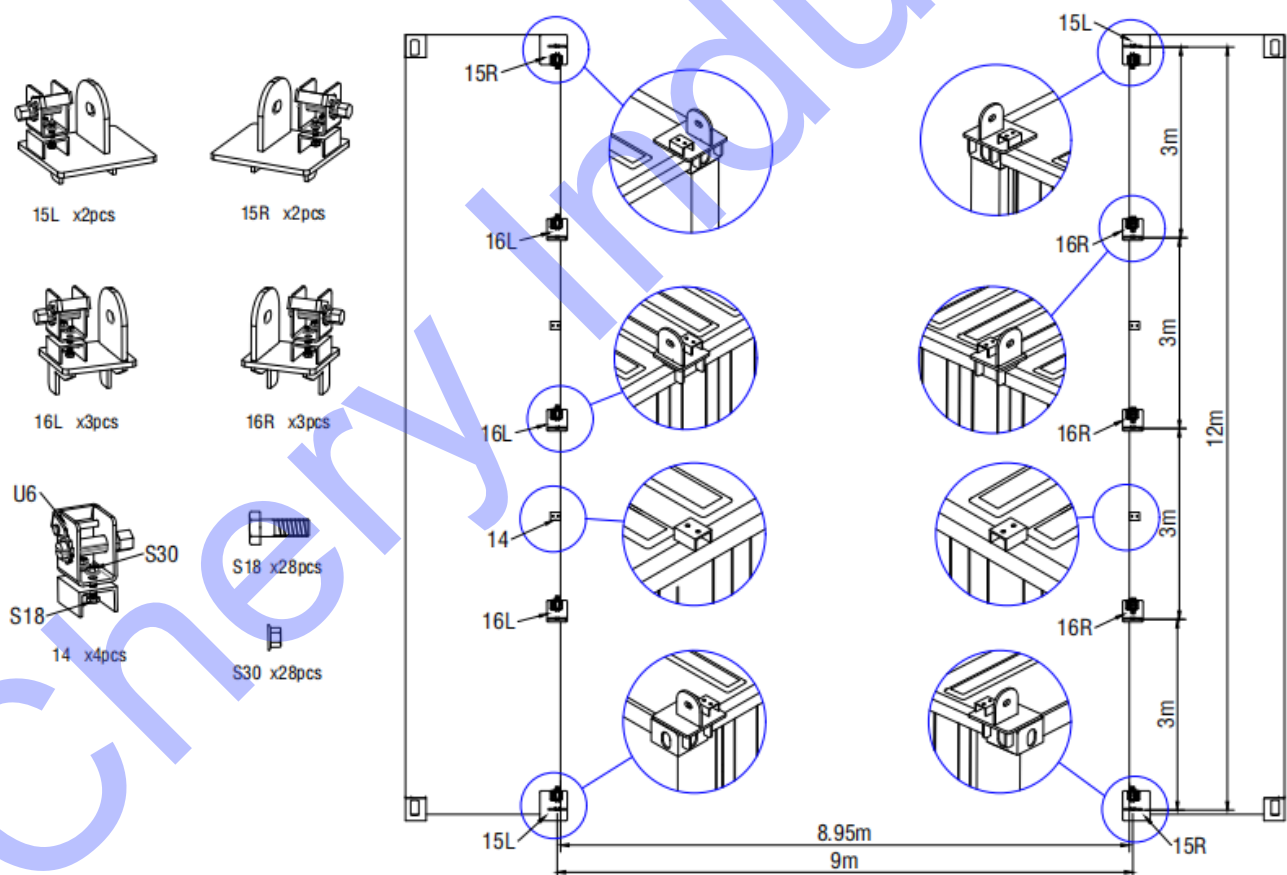

Figure 1
B. **Measure diagonally from centre to centre of the tubes.** These measurements should be the same as below Figure 1 shows.**Base plates (15L/15R/16L/16R) must be fully welded inside and outside. Part no.14 doesn't need to be welded in advance. The welding position can be determined according to the strap position of the roof cover when the roof cover is installed.**